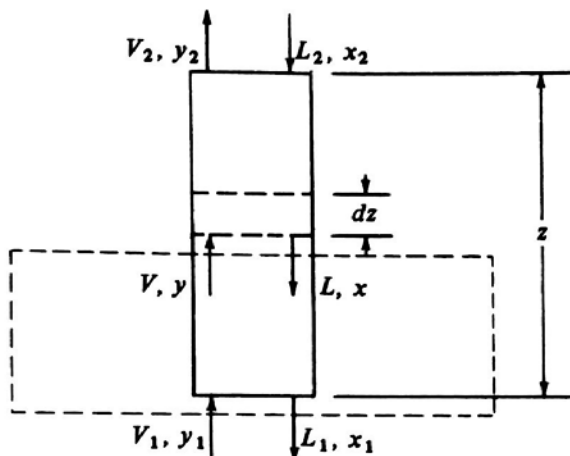

FIGURE 10.6-9. Material balance for a countercurrent packed absorption tower.
5. Design method for packed towers using mass-transfer coefficients. For absorption of A from stagnant B , the operating-line equation (10.6-5) holds. For the differential height of tower dz in Fig. 10.6-9, the moles of A leaving V equal the moles entering L :